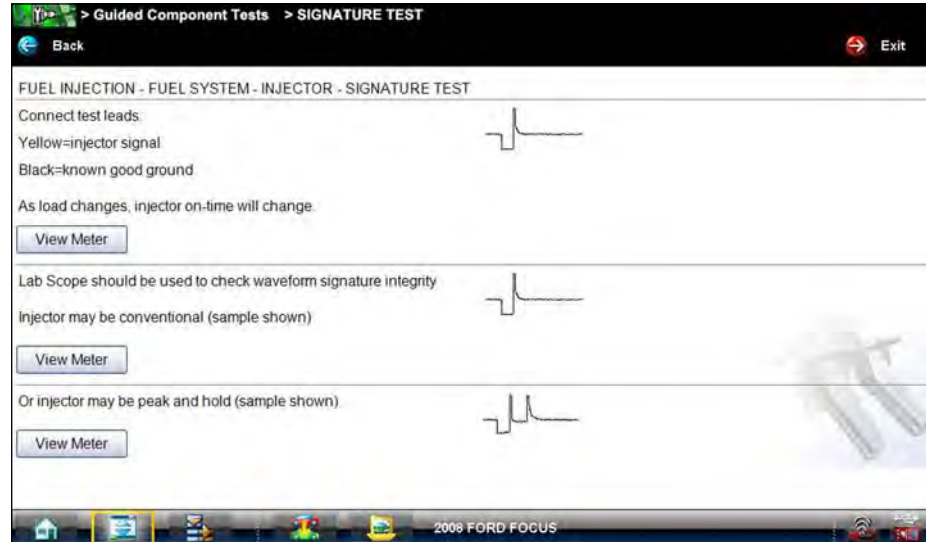

Figure 7-6 Sample Test screen
3. Select a test option and the test screen displays (Figure 7-6).